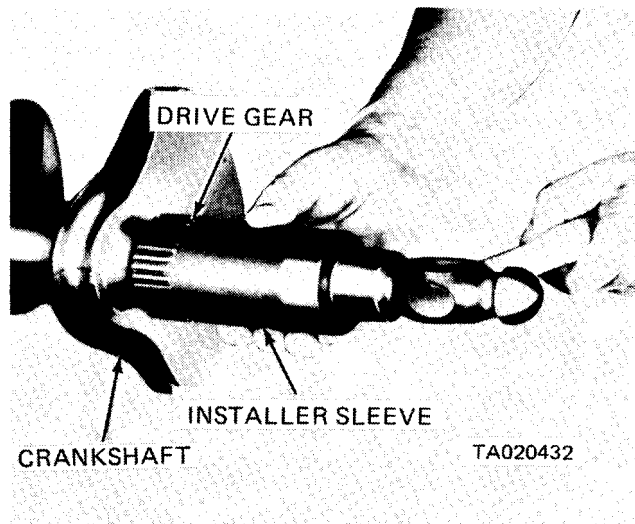

Figure 3-99. Installing oil pump drive gear.
(2) Apply a thin coat of non-hardening sealant to periphery of oil seal (9). Position front cover (3) inner face down in an arbor press and press seal with cup side facing inward into cover until seal is flush with outer face of cover.
(3) If the oil pump drive gear was removed from the crankshaft refer to figure 3-99 and install the drive gear,